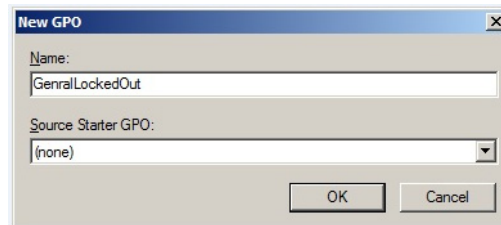

Figure 38. Group Policy Tab
- d. Give the new group policy a name, e.g. 'GeneralLockedOut'. See Figure 38.